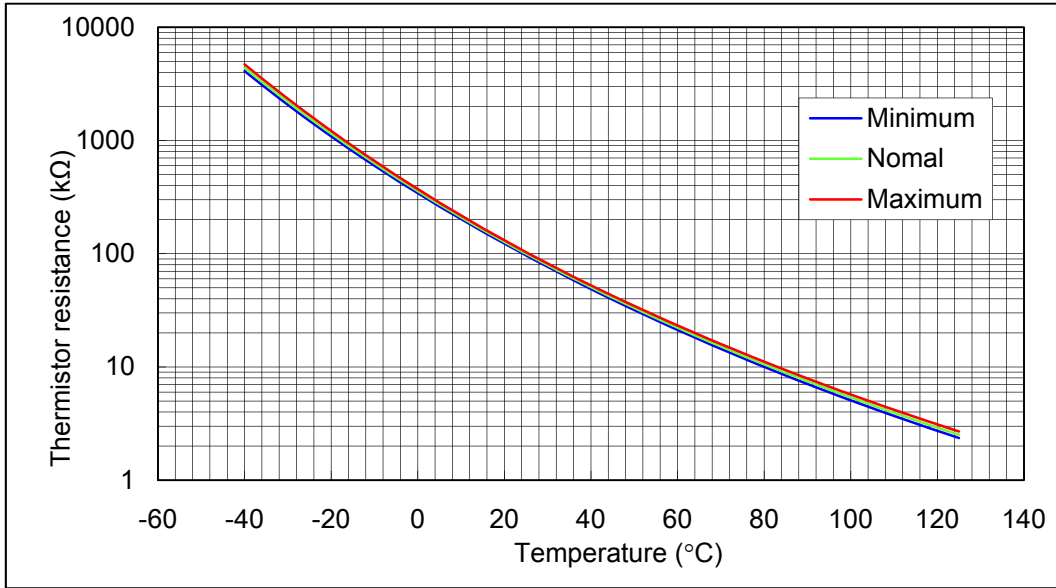
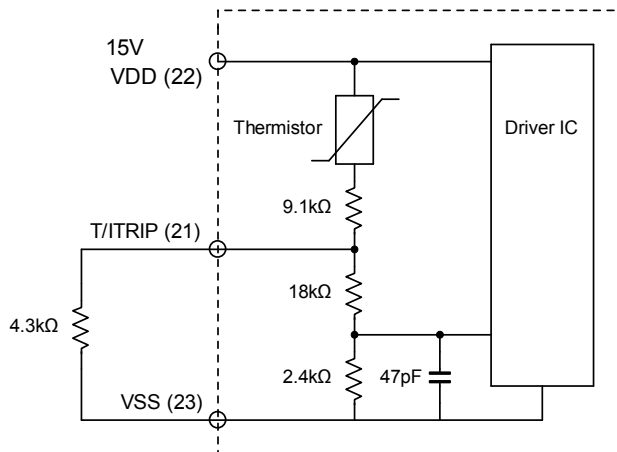

Fig. 10 Variation of thermistor resistance with temperature
Fig. 12 Sample application circuit for temperature monitoring
7. Inside the IPM, a thermistor used as the temperature monitor is connected between VDD terminal and T/TRIP terminal, therefore, an external pull down resistor connected between the T/TRIP terminal and VSS terminal should be used. The temperature monitor example application is as follows, please refer the Fig.10, Fig.11, and Fig.12 below.